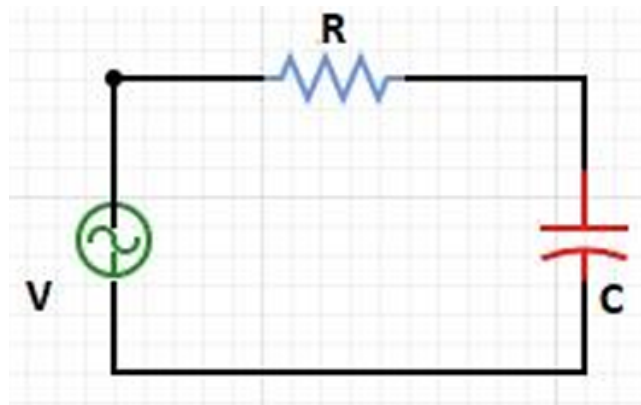

Figure 2: RC Circuit
1. Connect the RC circuit on the breadboard as shown in Fig. 2.